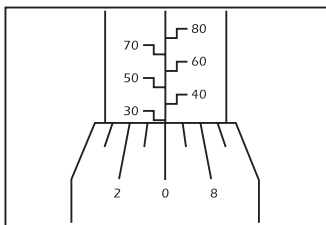

FIG.2
1.1 SETTING EXAMPLE 3/8" SQUARE DRIVE - FIGS. 2 - 5
2. 30Nm. whole number (Fig.2).